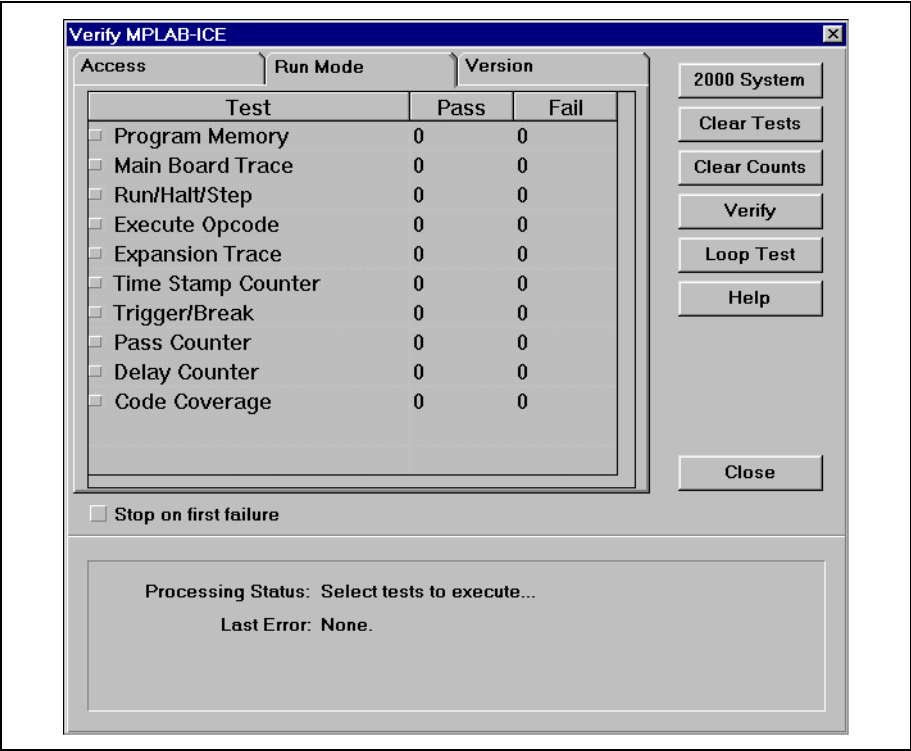

Figure 7.3: Verify MPLAB ICE – Run Mode Tests
- Run mode tests – Checks the running of the system (Figure 7.3).